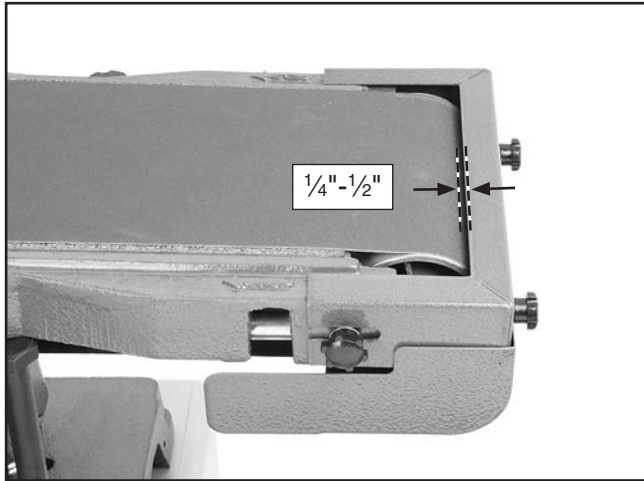

Figure 42. Correct distance between belt and idler roller guard.
39. Adjust the inside edge of the idler roller guard $\frac{1}{4}$ "- $\frac{1}{2}$ " away from the sanding belt (see **Figure 42**).